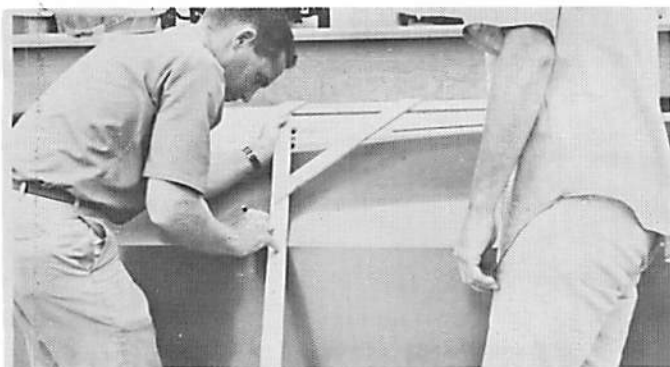

Figure 2
6. Using the wooden square (sketch no. 3) and a plumb bob, mark the station points on the chines and sheer with a grease pencil as shown in Figures 2 and 3.